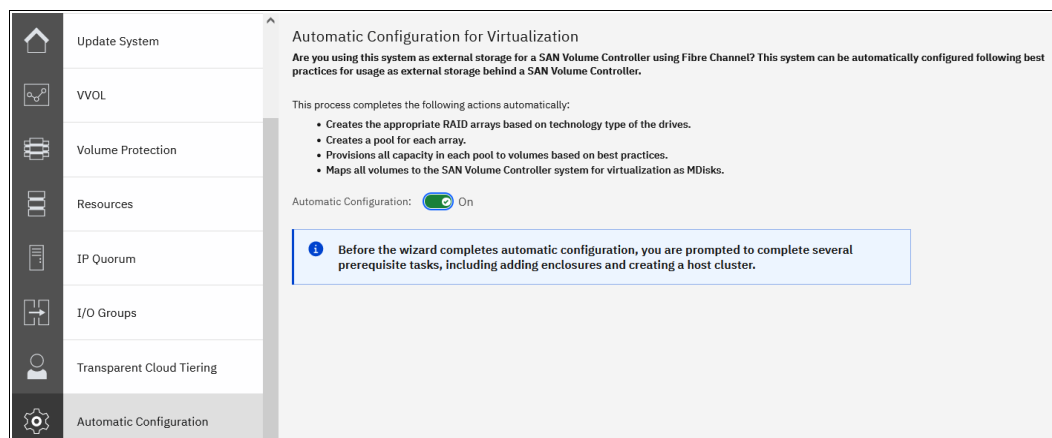

Figure 3-50 Automatic Configuration wizard enablement
1. From the menu **Settings** → **System** → **Automatic Configuration** select Automatic Configuration **ON** and click **Save** as shown in Figure 3-50.